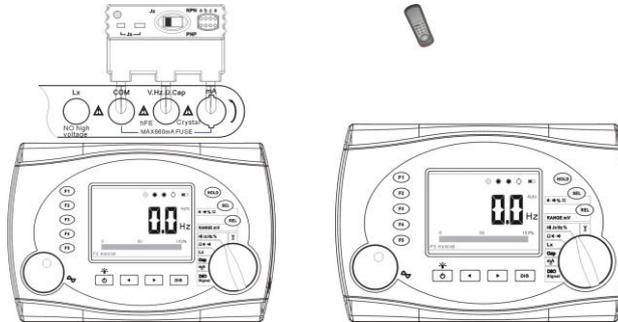

Fig21: figs for remote control (right) and crystal oscillator (left) measurements
2. Select the **Jx Hz %** position; connect the crystal accessory to the meter with plugging in **COM**, **V.Hz.Ω.Cap** and **mA** jacks (see the right Fig of the Fig21). Replace the switch on the crystal accessory to the **Jx** position, plug the test crystal oscillator and get the measuring result from the screen. The reading frequency is the Local Frequency of the crystal oscillator. (test range: 32kHz~10MHz, wrong result reading will be displayed if larger than 10MHz). If no reading on the screen, there are some reasons as the following: a, bad connection for crystal oscillator; b, the frequency is not in the test range; c, bad crystal oscillator; d, the fuse built-in the **mA** terminal is broken.
2. Turn the function switch to select the \approx position. (Connect as fig21). Press the REL button to select 6.000V range and press SEL button to select DC mode. Select the hFE position and plug the transistor as the symbols “N” “P” “N”/ “P” “N” “P” printed on the crystal oscillator. The measuring reading is the amplify parameters of the transistor (1.000V – 1000 times).